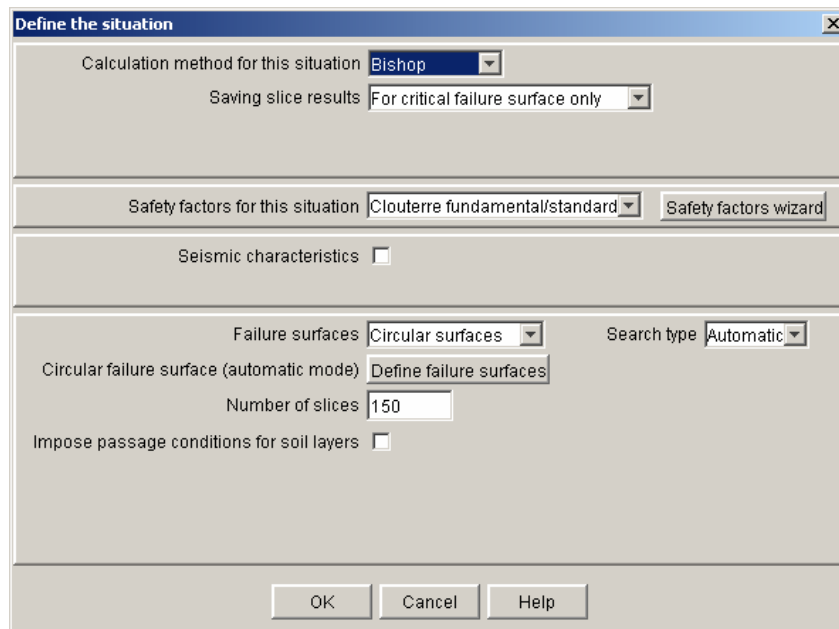
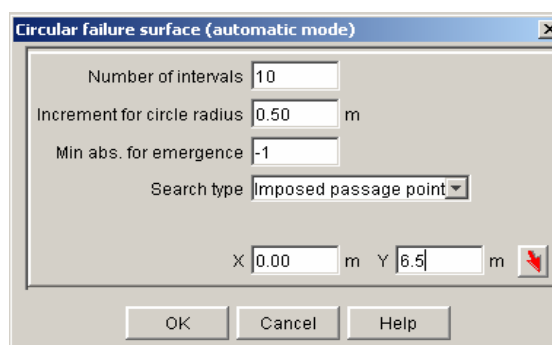

Figure 20: definition of the 1st situation for the 1st stage
Figure 21: definition of failure surfaces for the 1st situation of the 1st stage
To access the situation properties, select menu [Stages and conditions], option [Define selected set of conditions] or right-click on the situation title, and choose option [Define selected set of conditions] from the pop up menu. The dialogue box of Figure 20 appears.
- Definition of failure surfaces: we will choose for example for this first situation circular failure surfaces passing at the excavation bottom, with an automatic search. The requested data appear on Figure 20 and Figure 21 (the dialogue box of Figure 21 is displayed after selection of "Circular surfaces" and "Automatic search", and click on button "Define failure surfaces").